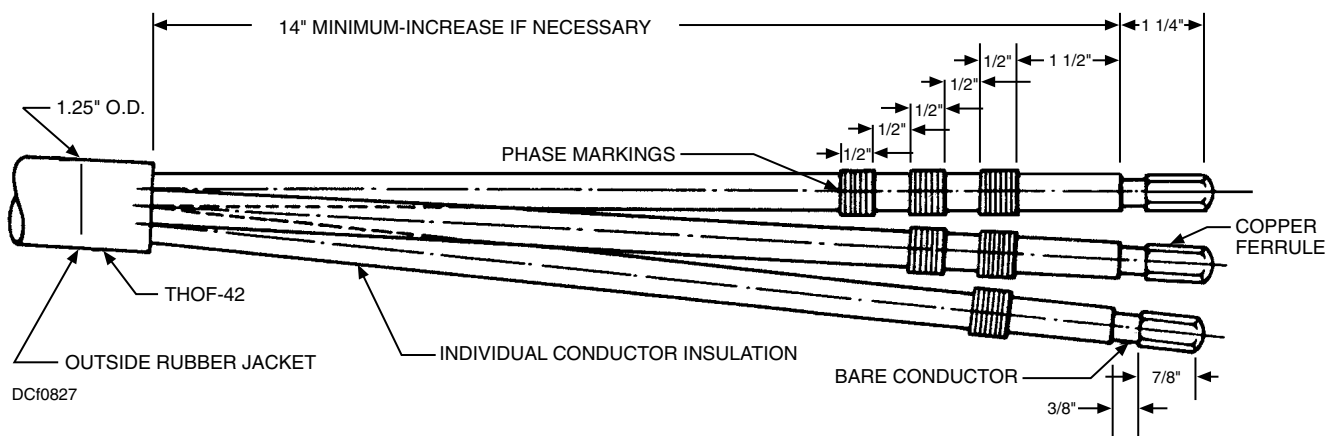

Figure 8-27. Portable casualty power, 450 volts, three-phase cable end.
- Racks containing various lengths of portable thermoplastic covered or neoprene-covered cable. Each cable contains three leads or conductors (fig. 8-27). One lead is colored black, one is white, and one is red. This same color code is used in all three-wire power circuits throughout the electrical installations aboard ship.